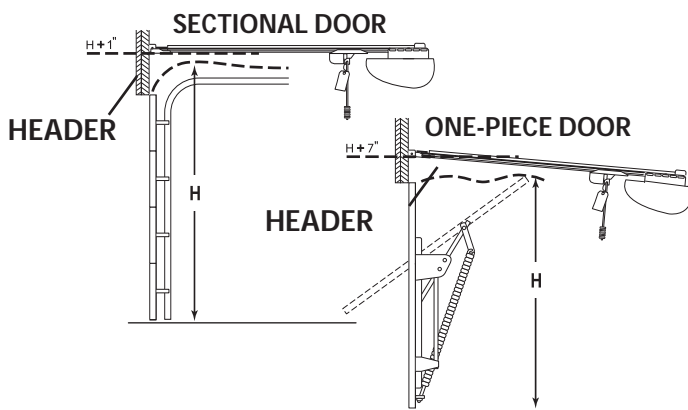

Figure 4 Find Highest Point of Travel
- B** Find Header Bracket mounting height (**Figure 4**): (Do not attach Header Bracket).